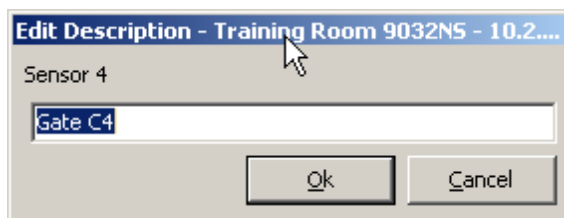

Figure 2-16: Ambient Sensor Description
Each ambient sensor channel can have a logical description assigned to it that allows it to be easily associated with its physical location in the facility. The description can be edited simply by right-clicking on the sensor name in the **Ambient Sensor Assignment** and typing in a new name in the description box as shown in Figure 2-16.
**Note:** Sensor descriptions can also be assigned by left-clicking on any collector unit (T9032NS) in the tree view and selecting **Sensor Meters** to bring up the sensor meter display. The description can then be edited by right-clicking on a meter to bring up the edit window as shown in Figure 2-16. This allows the sensor to be identified prior to entering a description.